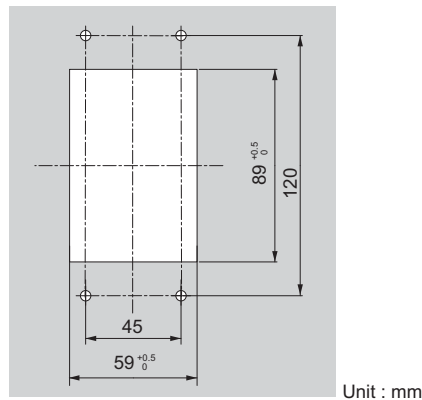

Figure 2.8 Panel Cut-Out Dimensions (Internal/Flush-Mount Installation)
1. Cut an opening in the enclosure panel for the digital operator as shown in Figure 2.8.